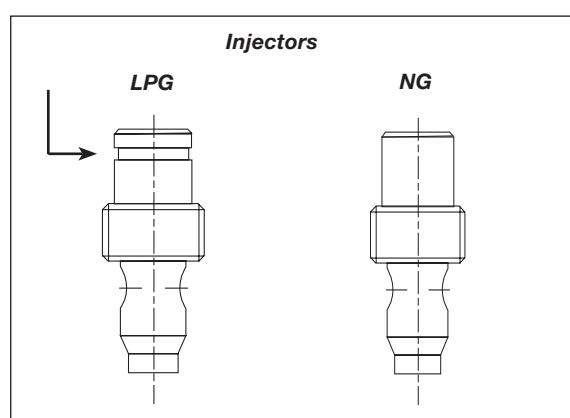

fig. 4
- 5** Verify that the new injector is proper for the application. The injector size is stamped on the side of the injector near the top. LPG injectors have a groove machined around their circumference near the top, while NG injectors do not have a groove (fig. 4).